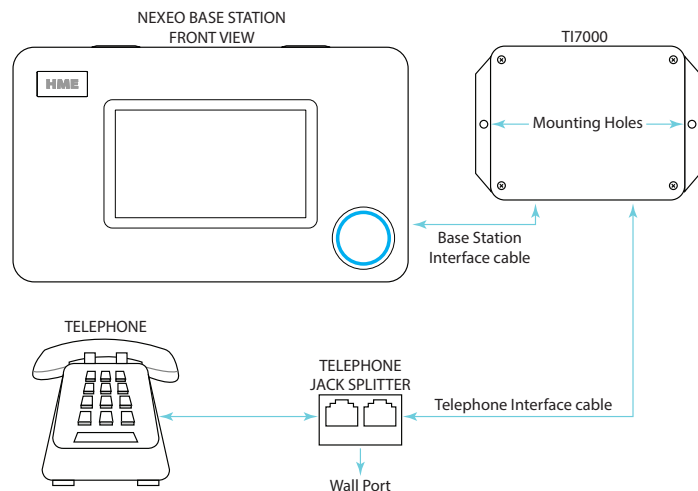

Fig. 12.1
1. Hold the TI7000 against the wall and mark the wall through the two mounting holes on each end of the unit (see Fig. 12.1).
2. Plug the telephone into one of the ports on the telephone jack splitter. See Fig. 12.1.
3. Plug one end of the included telephone interface into the other port on the telephone jack splitter and connect the other end to the RJ11 port on the TI7000. See Fig. 12.1 and 2.